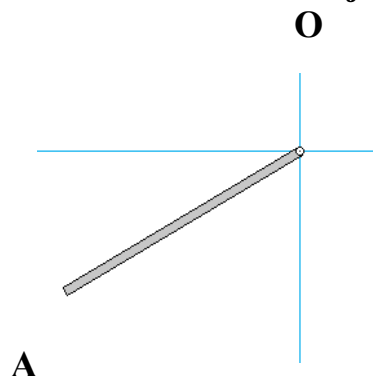

Fig. 1
3. As shown in the Fig. 1, the pendulum(OA) has the initial angle 210° with respect to horizontal positive x-axis. If the pendulum has mass $m=5\text{kg}$, length $l=10\text{m}$, gravity $g=9.8\text{m/s}^2$ and release from an initial angular velocity 1 rad/s . Please solve for the angular acceleration and reaction force of revolute joint O at the release instant. (10%)